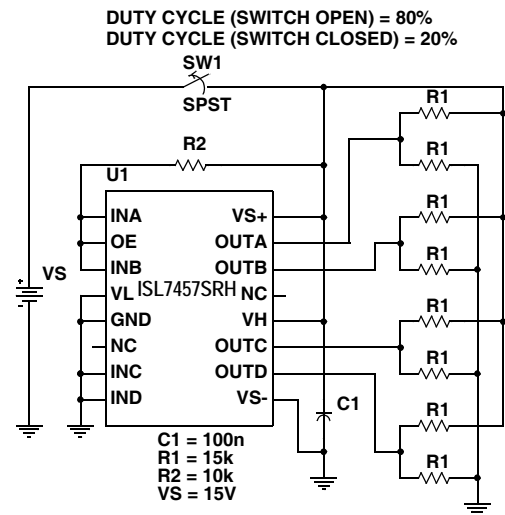

FIGURE 2. RAD EXPOSURE CIRCUIT (BIAS DUTY CYCLE = 20%)
In many cases a 10krad(Si) TID rating is not adequate to meet mission requirements, so a method to extend the TID capability is desired. Figure 2 shows a radiation exposure circuit that biases the ISL7457SRH only 20% of the time. For the other 80% of the time, the ISL7457SRH is unbiased. Devices irradiated in this manner have demonstrated acceptable post-rad parametric limits after 50krad(Si) TID, as indicated in the Electrical Specification tables of this application note. Please note, however, that the post-50krad electrical specifications shown herein are not specified in or guaranteed by SMD 5962-08230.
**Electrical Specifications**  $V_{S+} = V_H = 5V \pm 10\%$ ,  $V_{S-} = V_L = 0V$ ,  $OE = V_{S+}$ ,  $T_A = +25^\circ C$ , Post 50krad(Si) unless otherwise specified. Refer to Figure 2 for radiation exposure circuit biasing.
Refer to Figure 2 for radiation exposure circuit biasing.